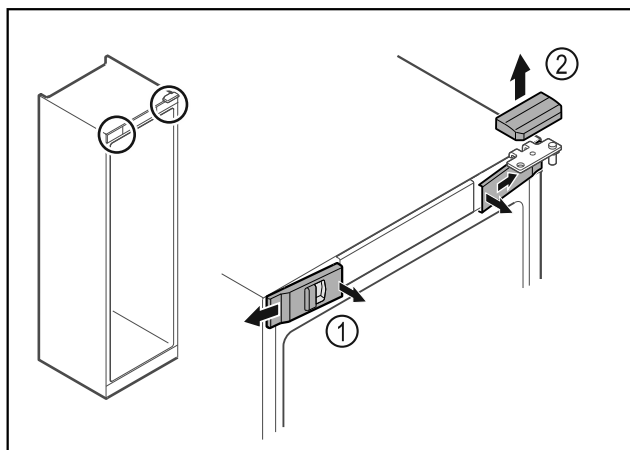

Fig. 5*
- Unlatch the front covers Fig. 5 (1) on the inside and remove them sideways.*
- Lift off the upper cover Fig. 5 (2).*